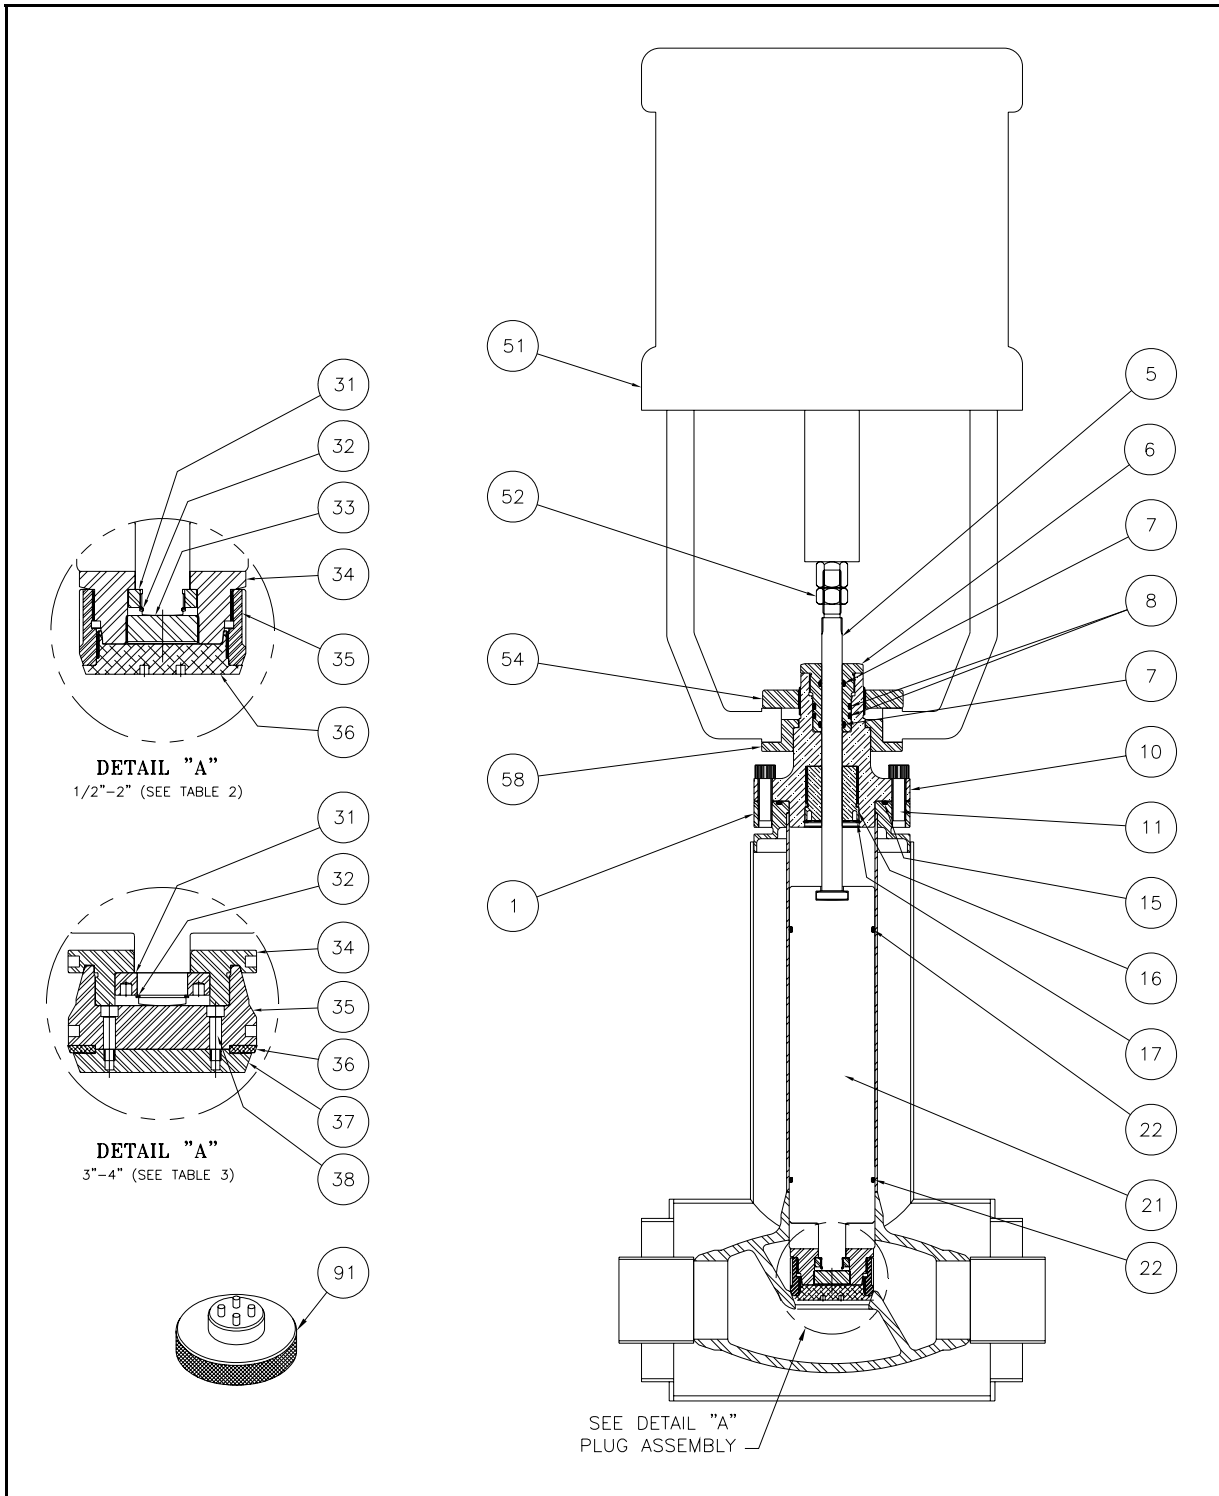

Figure 1 – Parts Diagram, 1/2 to 4" NPS
- The Seal Disc (36) is replaced by first removing the Barrel (21) and plug assembly per Section 1.1 instructions.
- Next use two PHPK Spanner Wrenches (92). Place one Spanner Wrench on the Retainer Lock Nut (34) and the other on the Retainer Body (35). Hold the Retainer Lock Nut still and turn the Retainer Body counterclockwise until they separate.
- Remove the Seal Disc Support (37) from the Retainer Body by removing the Seal Disc Support Screws (38) with a 3/16" Allen wrench.
- Remove and replace the Seal Disc. The bevel on the outside diameter of the Seal Disc **must** be oriented as shown in Figure 1.
- Slide the Retainer Lock Nut back and verify the Plug Retainer Nut (31) is hand-tight against the Retainer Ring (32).